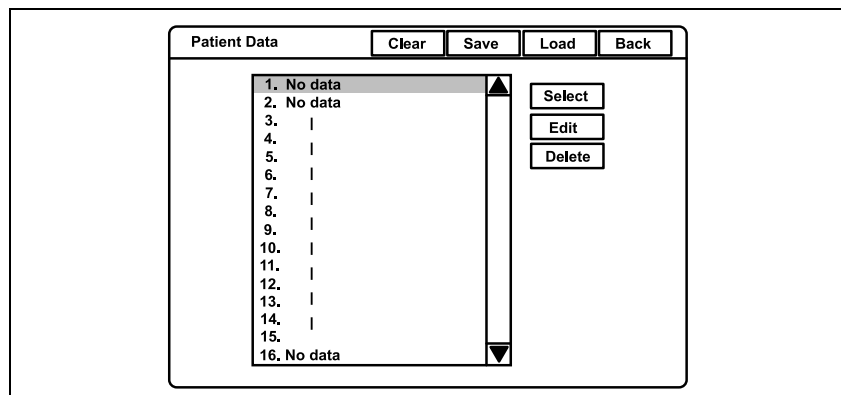

Figure 5.85
- Press the "Shift" and "F3" keys together to display "Patient Data" menu (see Figure 5.85).
- Click "No data" in the patient name list (see Figure 5.85).